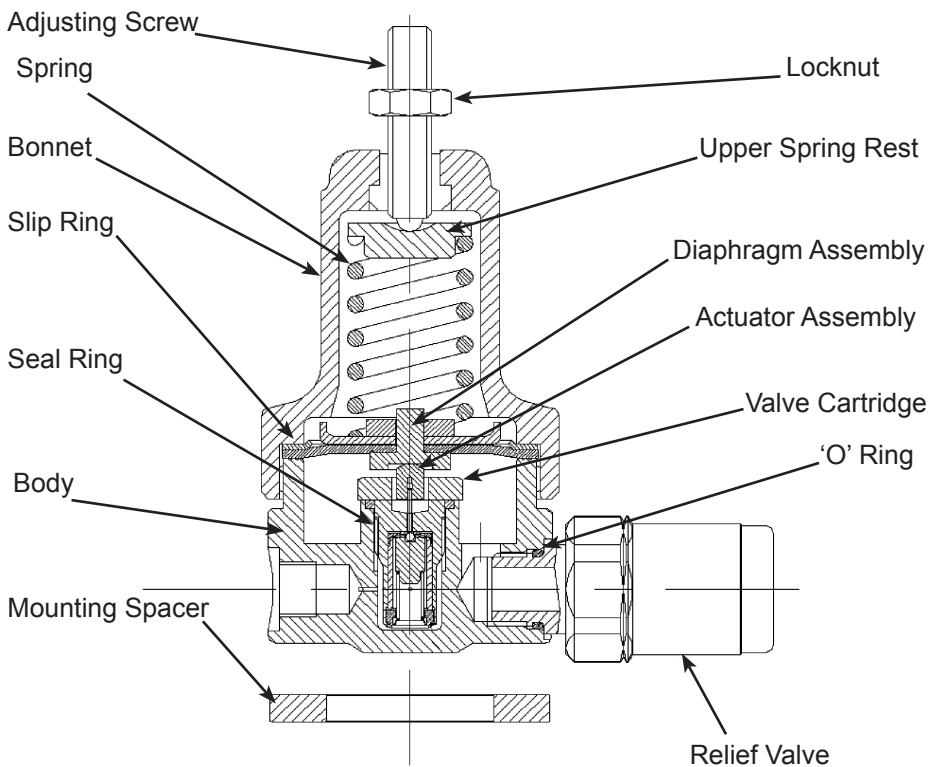

Figure 70 - Primary Regulator Assembly
3. Release the internal spring tension at the bonnet hex nut using a 1/8"-inch Allen key. Use a crescent wrench to remove the bonnet (Figure 70).